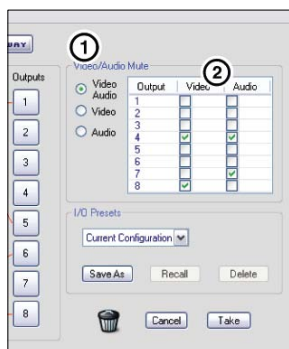

Figure 5-20 — Output video and audio signal muting
1. Click on the radio button for the type of mute desired; video and audio, video only, or audio only (see figure 5-20). The button fills green. If the video only or audio only button is selected, the other column becomes grayed out and is non selectable.